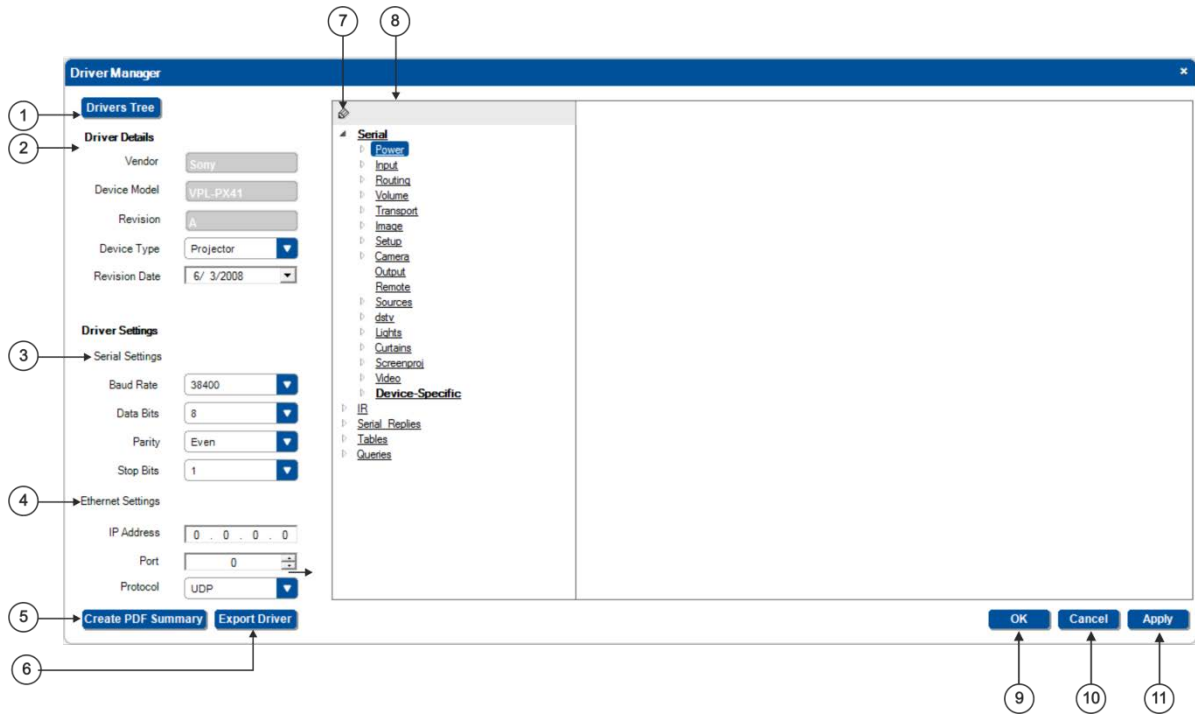

Figure 55: The Driver Manager Window
Furthermore, the Driver Manager lets you select the controlled device type (for example, a projector, DVD Player, audio amplifier and so on) so that the shared commands list displayed best fits the type of controlled device you are using. For example, it makes little sense to display Transport related commands for a Projector. It's important to understand that the controlled device type selected only affects the displayed command sub groups, it has no "real" influence on the command tree – all shared commands still exist even if they are not displayed. You can also select a generic type so that all the possible commands are available (see item 2 in Figure 55).